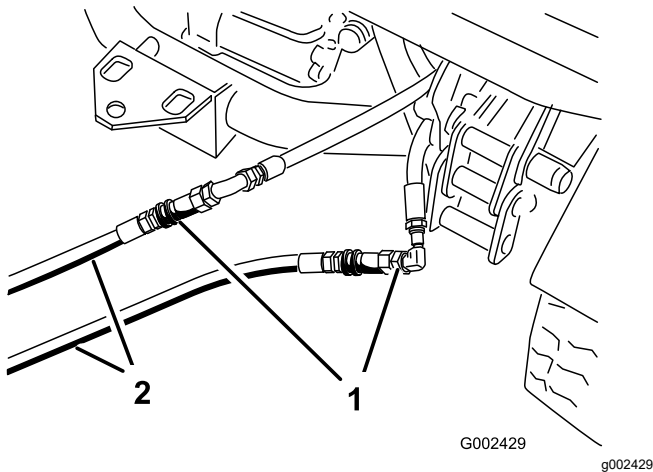

Figure 74
3. On the disabled machine, connect the 2 jumper hoses to the hoses that were disconnected (Figure 74).